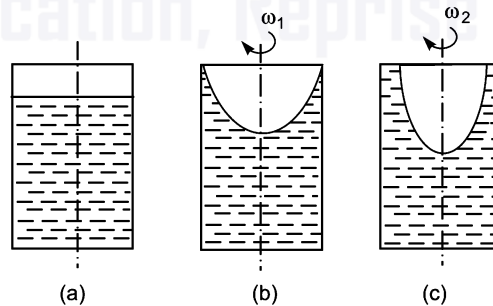

Fig. 5.20
**5.10.5 Closed Cylindrical Vessels.** If a cylindrical vessel is closed at the top, which contains some liquid, the shape of paraboloid formed due to rotation of the vessel will be as shown in Fig. 5.20 for different speed of rotations.
Fig. 5.20 (a) shows the initial stage of the cylinder, when it is not rotated. Fig. 5.20 (b) shows the shape of the paraboloid formed when the speed of rotation is  $\omega_1$ . If the speed is increased further say  $\omega_2$ , the shape of paraboloid formed will be as shown in Fig. 5.20 (c). In this case the radius of the parabola at the top of the vessel is unknown. Also the height of the paraboloid formed corresponding to angular speed  $\omega_2$  is unknown. Thus to solve the two unknown, we should have two equations. One equation is